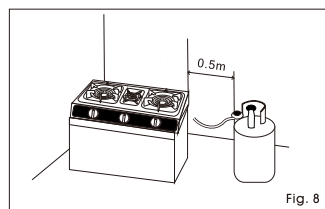

Fig. 8
- The gas cylinder should stand away at least 0.5m from the cooker.(Fig. 8)